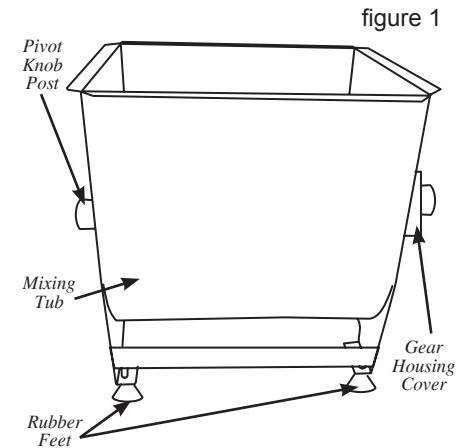

figure 1
1. Place the **Mixing Tub** on a stable, level surface with the **Pivot Knob** on your left and the **Gear Housing Cover** on your right (figure 1).